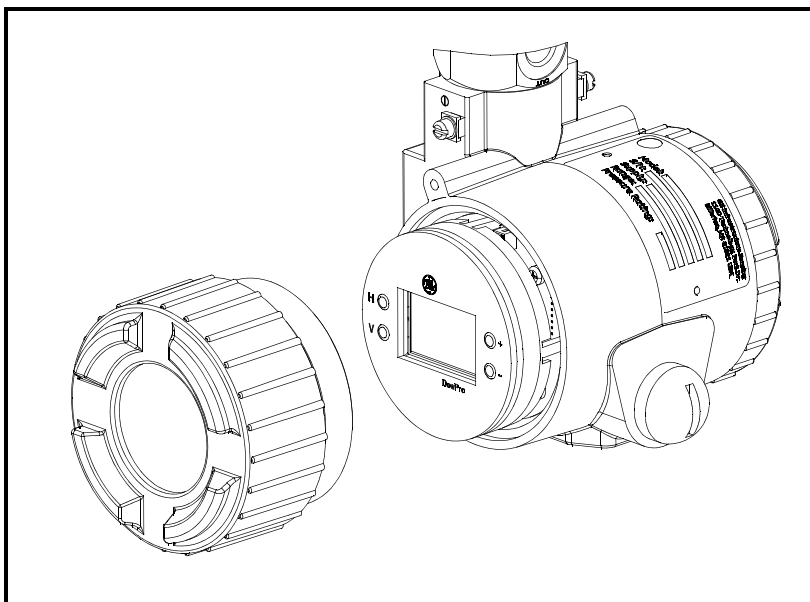

Figure 4-1: DewPro with Display
1. Unscrew and remove the protective lid from the top of the DewPro (as shown in Figure 4-1 above), exposing the display module below. The buttons V, H, + and - are now accessible.